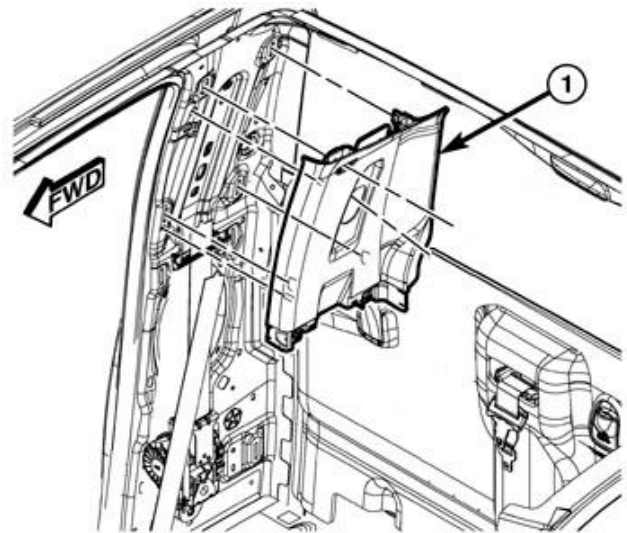

Figure 31 – C-Pillar Upper Trim Panel
19. Release the retaining clips and remove the C-pillar upper trim panel (1) (Figure 31).
54. Install the C-pillar upper trim panel (1) and engage the retaining clips fully (Figure 31).